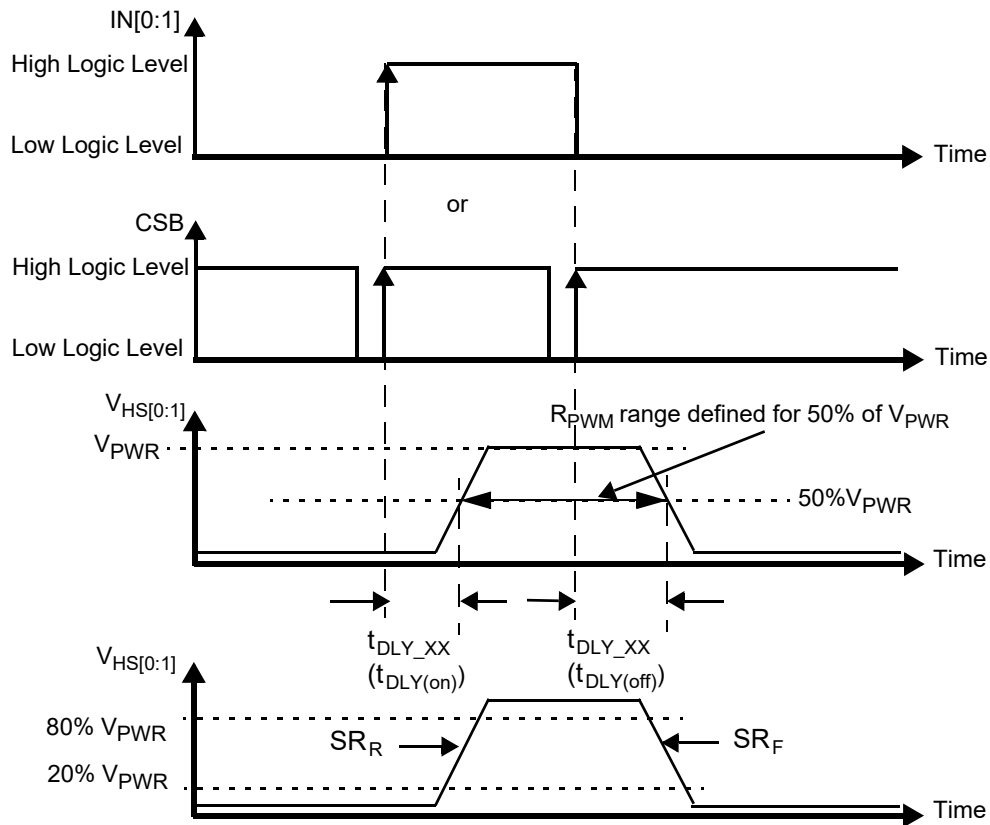
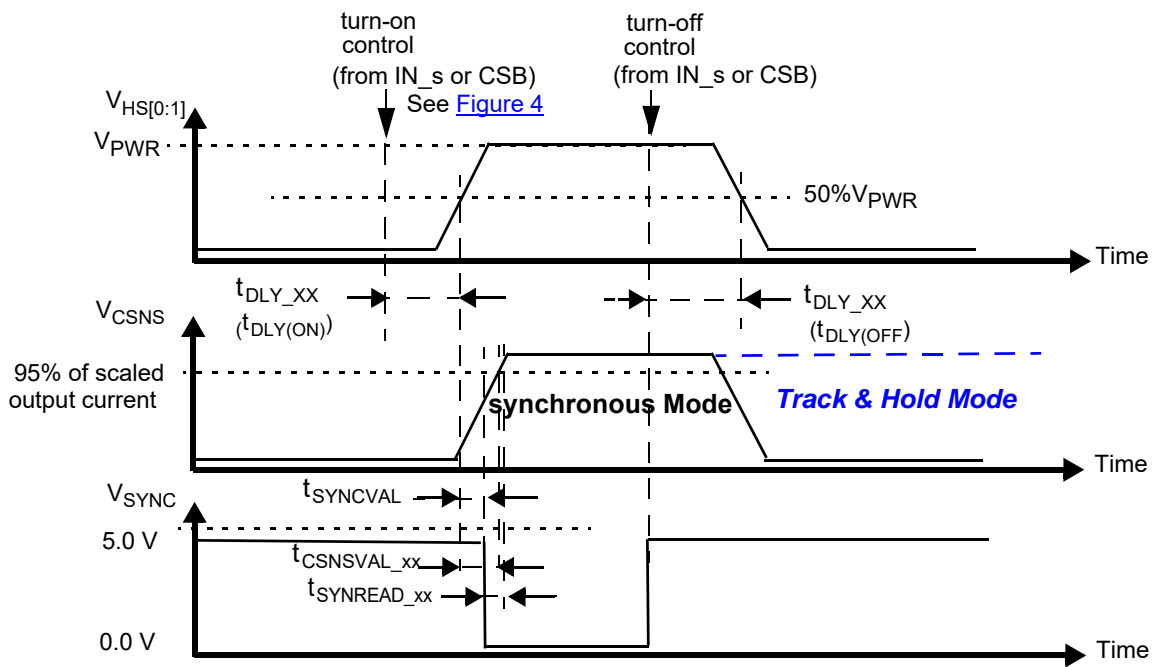

Figure 4. Output voltage slew rate and delay
Figure 9. Synchronous and Track & Hold current sensing modes: associated delay and settling times
27. Rising and Falling edge slew rates specified for a 20 % to 80 % voltage variation on a 10.0 Ω resistive load (see Figure 4).
29. Time required to switch off the channel after detection of overtemperature (OT), overcurrent (OC), SC or UV error (time measured between start of the negative edge on the FSB pin and the falling edge on the output voltage until $V(HS[0:1]) = 50\%$ of V_{PWR}).
30. Settling time ($= t_{CSNSVAL_XX}$), SYNC output signal delay ($= t_{SYNVAL_XX}$) and Read-out delay ($= t_{SYNREAD_XX}$) are defined for a stepped load current ($100\text{ mA} < I(\text{LOAD}) < IOCLX_A$ FOR $CSNS_RATIO_S = 1$, AND $300\text{ mA} < I(\text{LOAD}) < IOCLX_A_0$ FOR $CSNS_RATIO_S = 0$). (see Figure 9 and Output current monitoring \(CSNS\)).
To synchronize current sensing with an external process, the SYNC signal can be connected to a digital input of an external MCU. SYNC is asserted logic low when the current sense signal is accurate and ready to be read. The current sense signal on the CSNS pin has the specified accuracy $t_{SYNREAD_XX}$ seconds after the falling edge on the SYNC pin (Figure 9) and remains valid until a rising edge is generated. The rising edge that is generated by the SYNC pin at the turn-OFF instant (internal or external) may also be used to implement synchronization with the external MCU. Parameter $t_{SYNIVAL_XX}$ is defined as the time between the instant at the middle of the output-voltage rising edge ($HS[0:1] = 50\%$ of V_{PWR}), and the instant at which the voltage on the SYNC-pin drops below 0.4 V (V_{SOL}). The SYNC pins of different devices can be connected together to save micro-controller input channels. However, in this configuration, the CSNS function of only one device should be active at a time. Otherwise, the MCU does not determine the origin of the SYNC signal. The SYNC pin is open drain and requires an external pull-up resistor to V_{DD} .